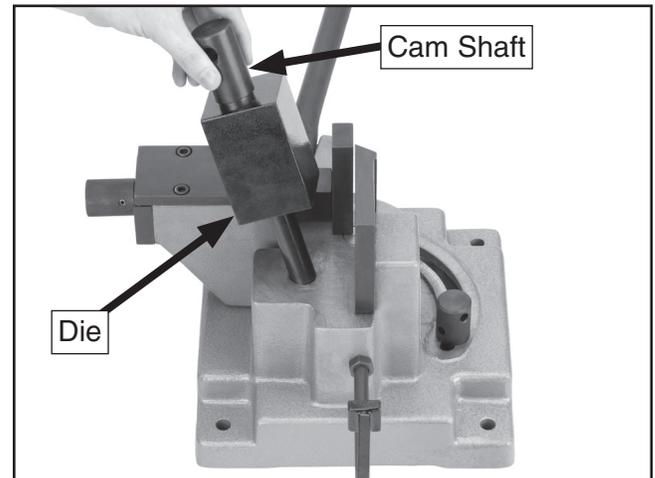

Figure 10. Lifting clamp cam shaft and die.
1. Lift the clamp cam shaft to release the clamp die. Rotate the clamp die as necessary to accommodate the thickness of your work-piece, then slide the clamp cam shaft back into the base (**Figures 10 & 11**).